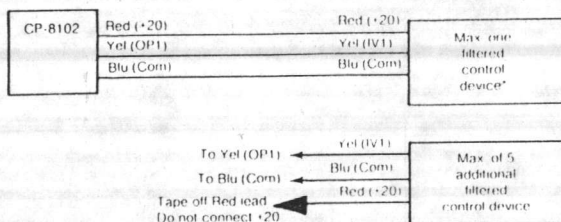

Figure 5. Controlled Devices All Filtered
1. Never connect red lead (or +20 terminal) of any controlled device which has a regulated power supply to the red lead (or +20 terminal) of any other controlled device (see Figure 5).